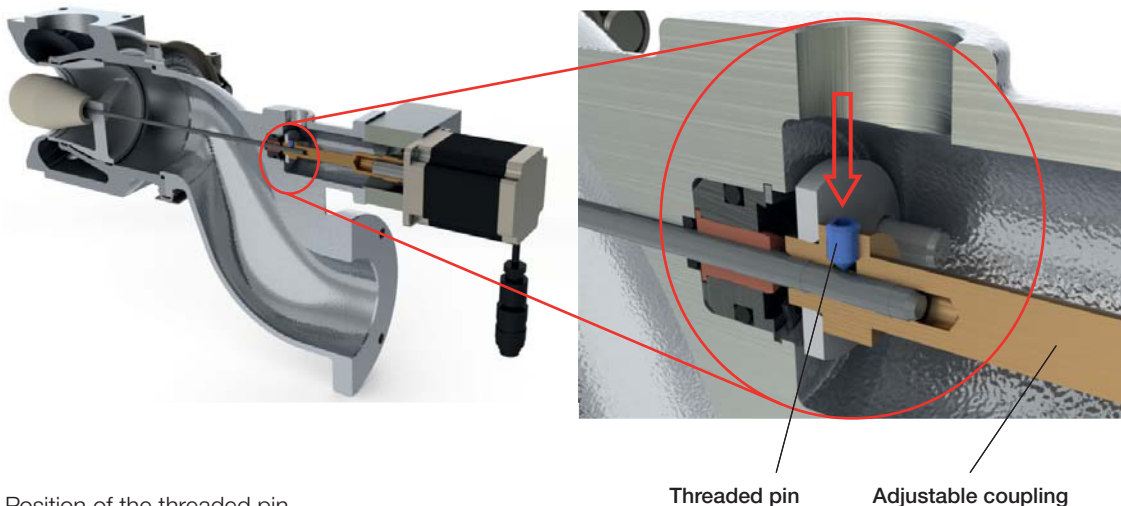
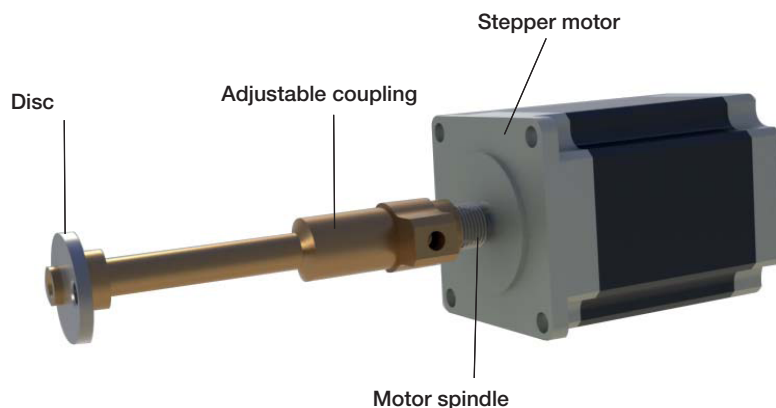

Fig 7: Position of the threaded pin
Fig 8: Stepper motor with adjustable coupling
Remove the plug (206) and loosen the connection between the adjustable coupling (207) and pin (204) by partially unscrewing the threaded pin (Figure 7).
Then remove the plug (211), loosen the cylinder screw (212) and remove it with the bush (213). Then the four cylinder screws (214) can be loosened and the stepper motor (215) with adjustable coupling unit (207) can be removed from the induction elbow (223) (Fig. 8)
After the adaptation of the guide belts the body is mounted together with the induction elbow (223). The body remains vertically aligned. Prior to mounting the induction elbow, make sure that the O-ring (203) is not twisted out of the centring collar. Carefully place the elbow on the mixer body so that the pin goes in through the hole in the induction elbow (Figure 7) provided for this purpose. Place the profile clip on the angles of the two flanges (on the housing and the induction elbow) and connect the two parts in the correct spatial arrangement by tightening the cylinder screw.
Slide the Venturi insert into the upright body until its mechanical stop and fit the adapter (210). Then mount the stepper motor with the adjustable coupling. In the process, make sure that the cylinder pin (205) goes through the hole in the disc (Fig. 8) and the pin runs in the coupling. Fasten the stepper motor with adapter by tightening the four cylinder screws (214) on the induction elbow. Tighten the threaded pin (Figure 7) and insert the plug (206).